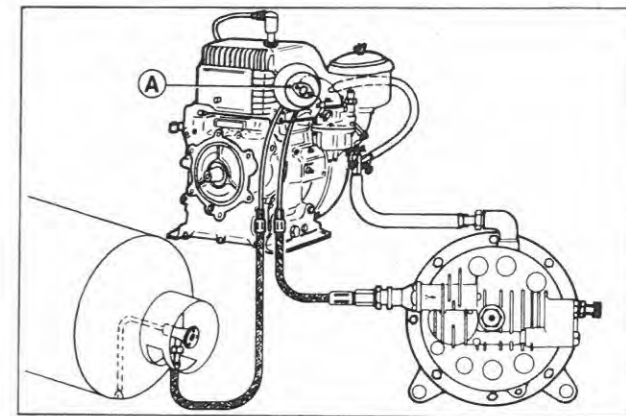

Fig. 86
Never mount pressure reducer on moving or vibrating parts. When gas bottle is assembled in a horizontal position, a heat exchanger (A) (Fig. 86) must be fitted to pre-heat and vaporize liquefied gas (Fig. 86).
Siehe Schema Abbildung 86.